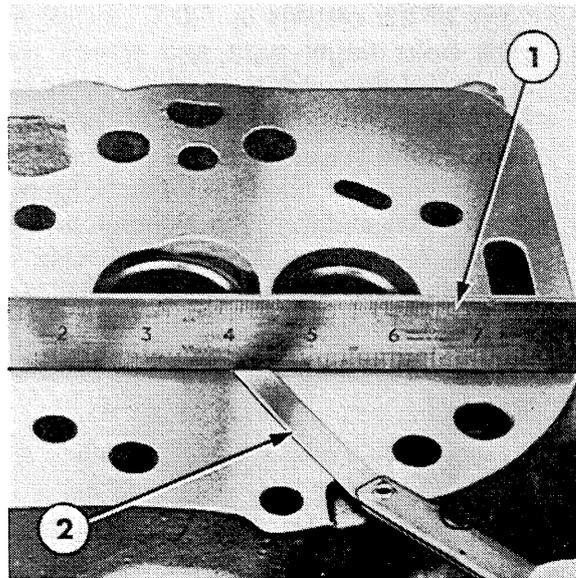

Figure 11
3. Use a straight edge to check the flatness of the cylinder head in all directions, Figure 11. For flatness requirement see "Specifications"—Chapter 4.